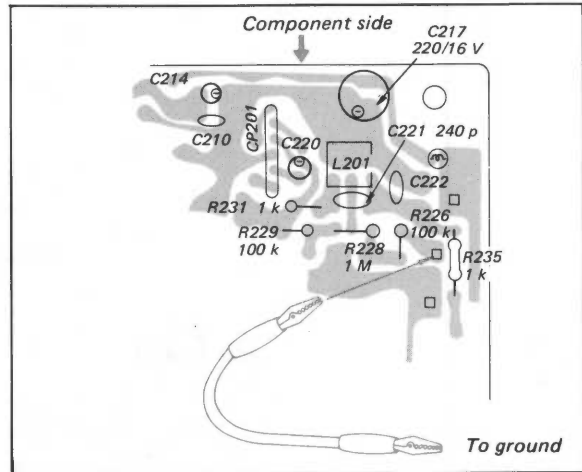

Fig. 3-2. Interruption of afc circuit
3. Short the test point of R226 on the a-m front end/i-f amp/MPX board (AFC circuit) to ground as shown in Fig. 3-2.
1. Short the test point of R226 (AFC circuit) to ground as shown in Fig. 3-2.
2. Short the test point of R226 on the a-m front end/i-f amp/MPX board (AFC circuit) to ground as shown in Fig. 3-2.